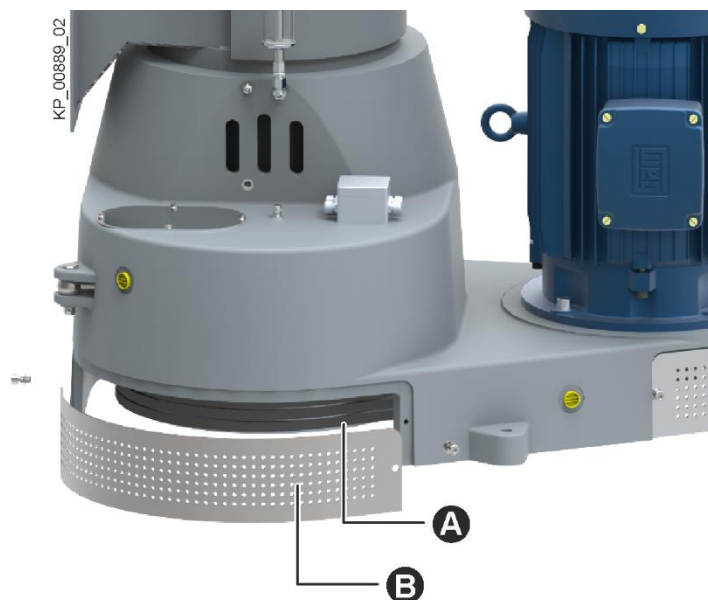
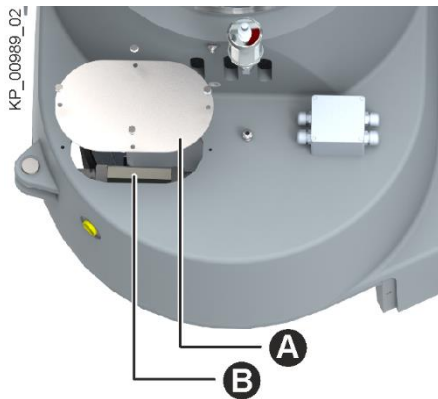
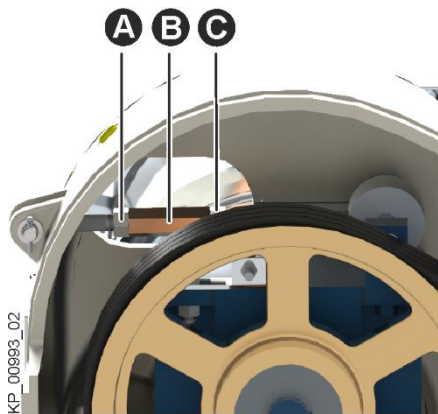

Fig. 71: V-belt guard
Fig. 72: Cover plate
Fig. 73: Loosening the belt tensioner
Pay attention to the tension of the V-belts (Fig. 71/A). The V-belts must not slip during operation. Property damage may be the result.
When the machine is equipped with 3 V-belts, the lower groove of the V-belt pulley (Fig. 71/A) remains free.
- Remove the V-belt guard (Fig. 71/B) and the cover plate (Fig. 72/A) of the belt tensioner.
- Loosen the lock nuts (Fig. 73/A) of the turnbuckle sleeve (Fig. 72/B).
- Turn the turnbuckle sleeve (Fig. 73/B) clockwise to tension the V-belts, until the V-belts can be pressed down as follows when applying a test pressure of 7.5 kg (strong thumb pressure) at half distance between centres:
- Secure the lock nuts (Fig. 73/A).
- Mount the cover plate (Fig. 72/A) and the V-belt guard (Fig. 71/B).